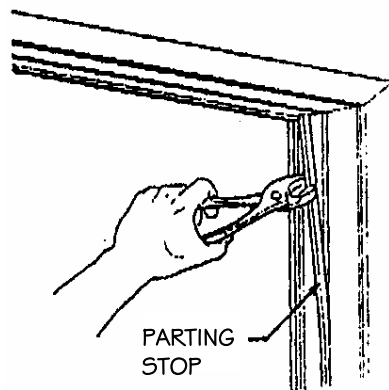

FIGURE 3
4. Continue removing parting stops from both jambs. See Figure 3.